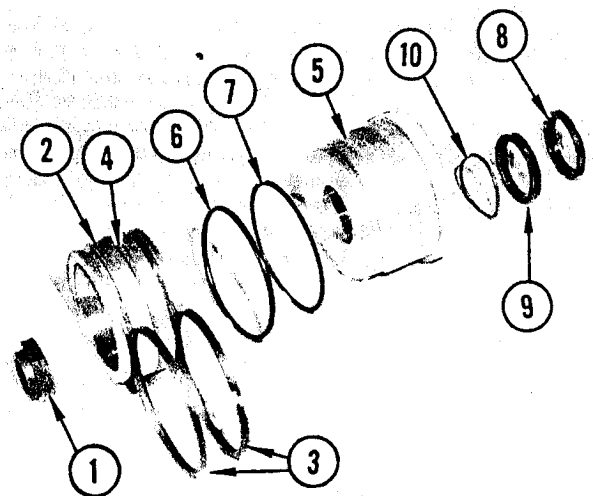

FIGURE 10. LEANING WHEEL
Refer to Figure 10 for disassembly of the piston and packing gland assemblies. Item (1) self locking nut was previously removed from end of piston rod.